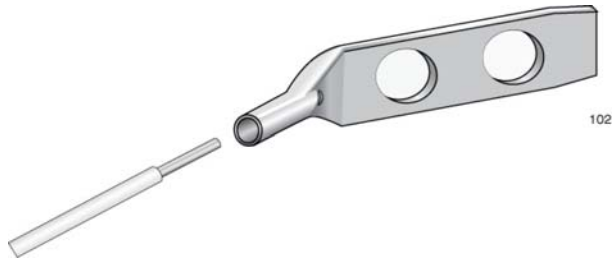

Figure 44. Attaching the Grounding Wire to the Grounding Lug
3. Insert one end of the grounding wire into the grounding lug, as shown in Figure 44, and use a crimping tool to secure the wire to the grounding lug.